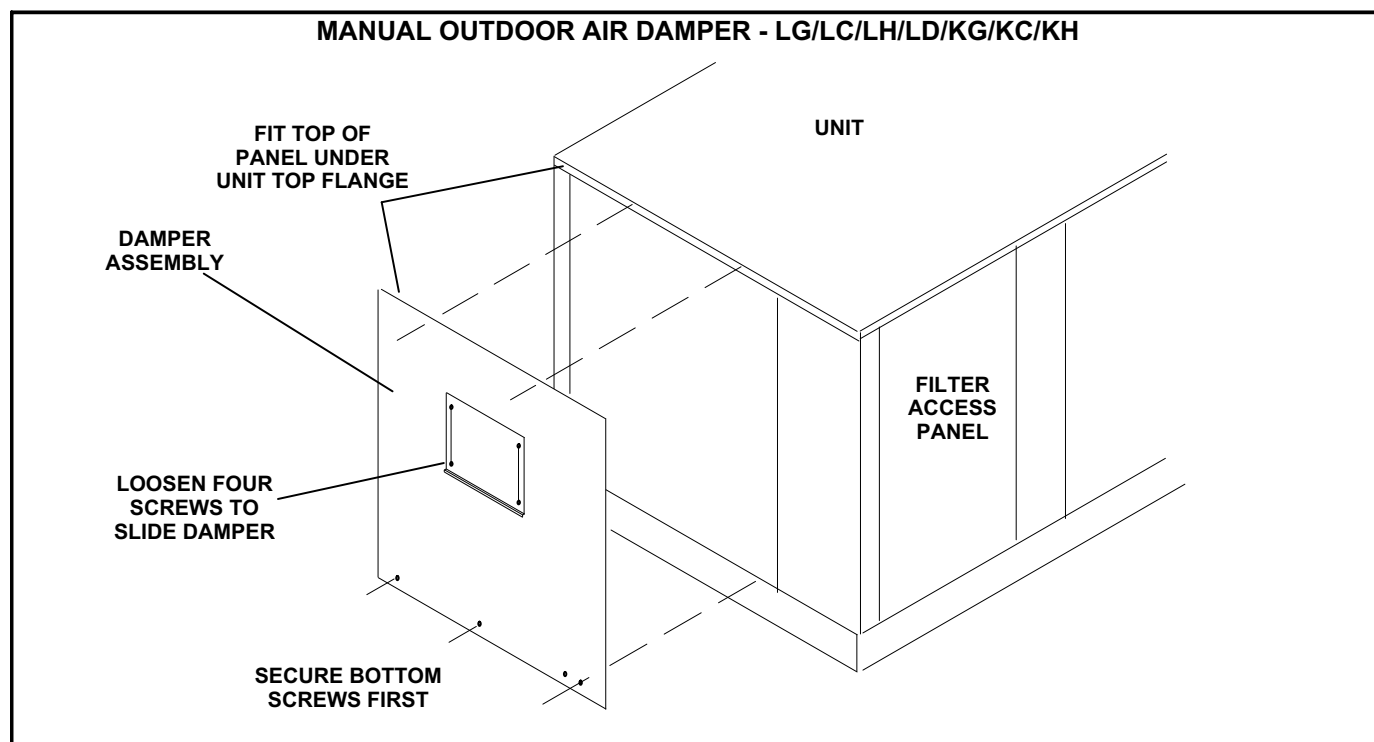

FIGURE 14
- 4- Insert top of damper assembly. See figure 14. Secure the bottom of the assembly using retained screws. Secure the top of the assembly with retained screws.